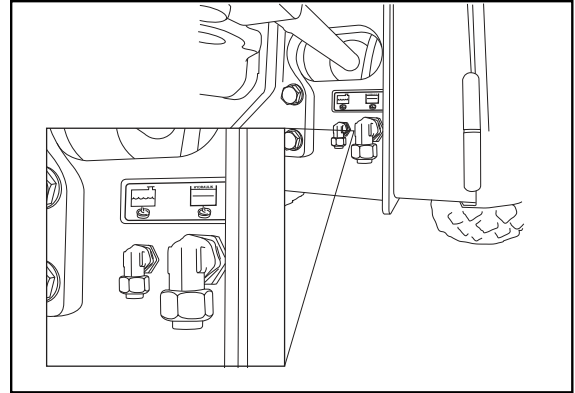

Fig. 153
- Unscrew the plug (Fig. 153) and drain the hydraulic oil off.
- Check the sealing ring (1), replace if necessary and screw the plug tightly back in.